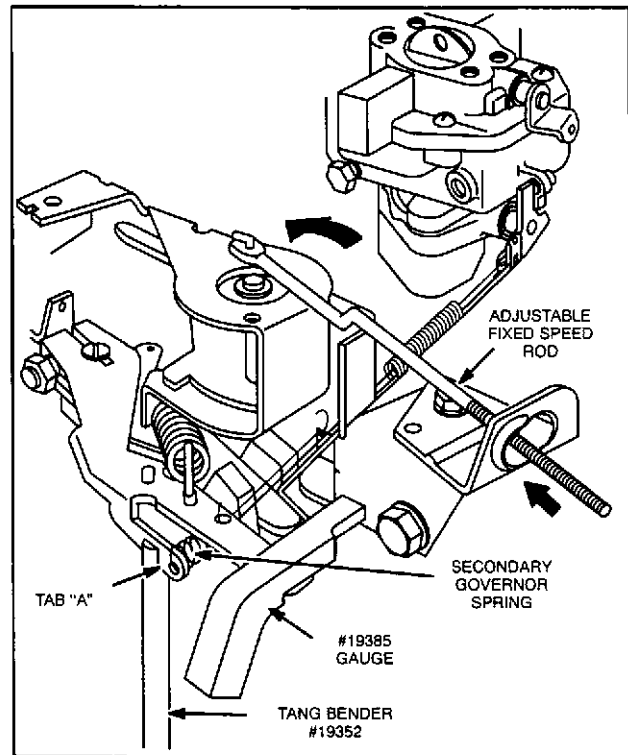

Fig. 20 – Adjusting Secondary Spring
against governor control bracket as shown in Fig. 20.
4. Holding gauge in position, bend tab "A" so that all slack is removed from secondary governor spring between its two anchor points, Fig. 20. DO NOT STRETCH SPRING.